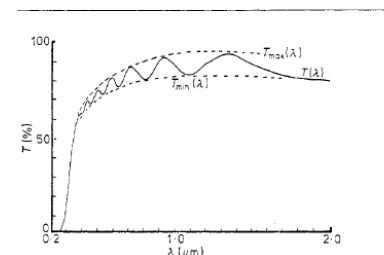

Figure 2 Typical transmission spectrum for a thin SnO_2 film of uniform thickness, $t = 0.9 \pm 0.04 \mu\text{m}$
We propose an important simplification of this method: we consider $T_{\min}$ and $T_{\max}$ as continuous functions of λ through $n(\lambda)$ and $\alpha(\lambda)$. These functions which are the envelopes of the maxima $T_{\max}(\lambda)$ and the minima $T_{\min}(\lambda)$ in the transmission spectrum are shown in figure 2. The ratio of equations (6) and (7) gives